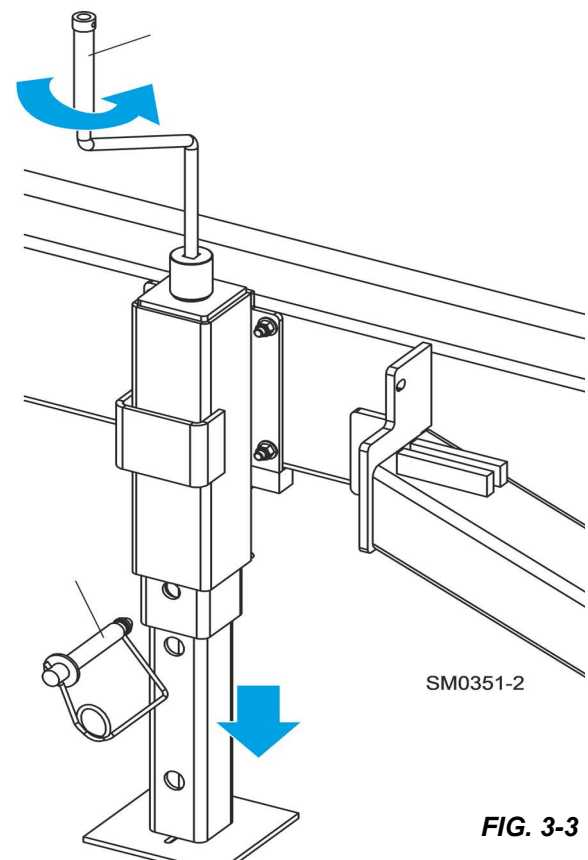

FIG. 3-3
- 1). Remove the locking pin and adjust the leg down. See FIG.3-3